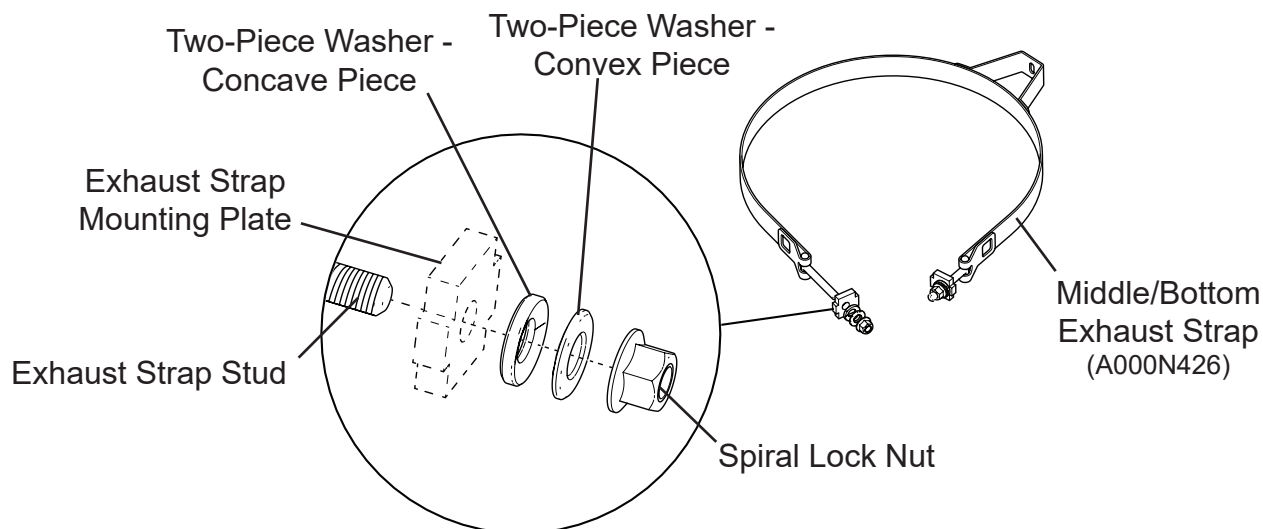

Figure 7
13. Install two-piece washers (A000W352) on exhaust strap studs against mounting plates, see Figure 7. Install flat side of the concave piece against exhaust strap mounting plate. Install flat side of the convex piece away from the exhaust strap mounting plate, see Figure 7.
14. Install spiral lock nuts (A000A690) on exhaust strap studs, see Figure 7. Tighten both spiral lock nuts evenly so equal amounts of stud threads protrude. Final tighten spiral lock nuts to 14 ft. lbs.